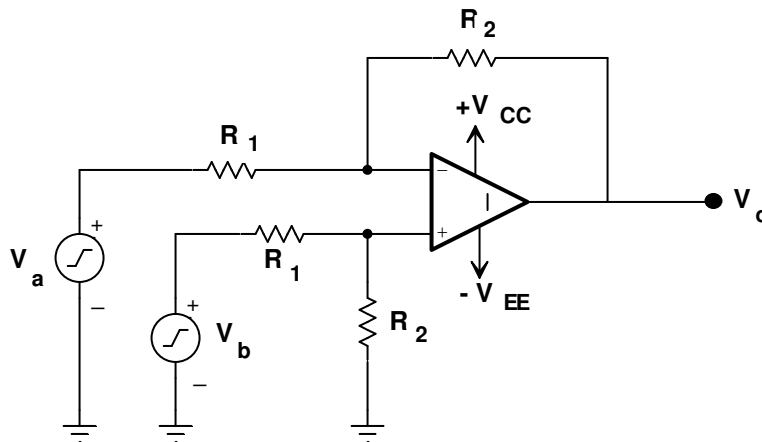

Fig.25 (c) Op-amp as Subtractor
**Op-amp as a Subtractor:** A basic differential amplifier can be used as a subtractor as shown in fig. 25(c). In this figure, all external resistors are equal in value, so the gain of the amplifier is equal to 1.
From the figure.25(c), the output voltage of the differential amplifier with a gain of 1 is